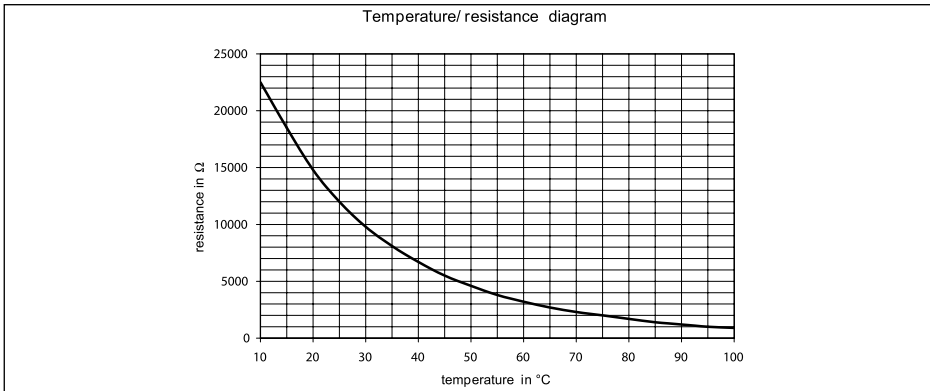

Fig. 24 Sensor resistance graph
- Check temperature sensors for resistance values against *Fig. 24* (humidity on sensors).